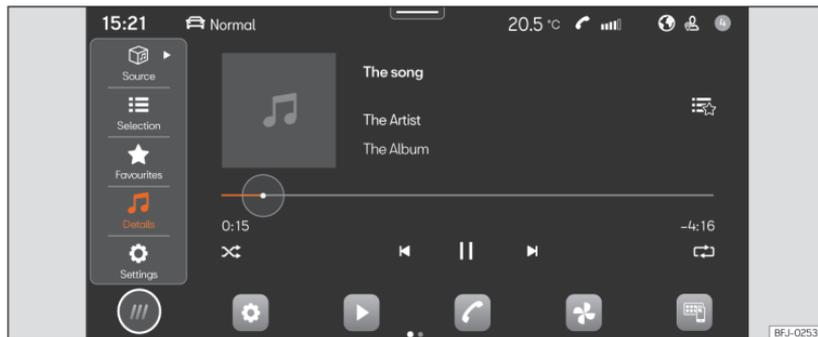

Fig. 139 Schematic diagram: Media view
- Press **HOME** > **▶ >>>** **Fig. 139**.